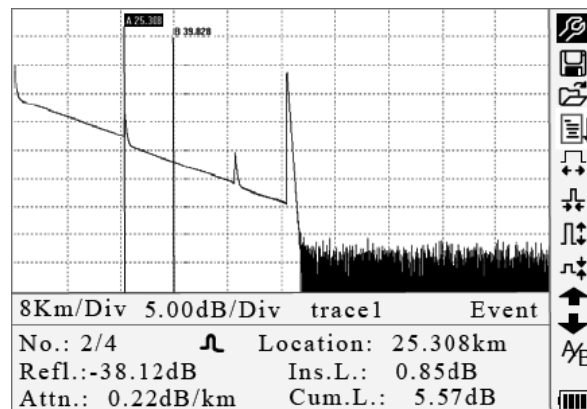
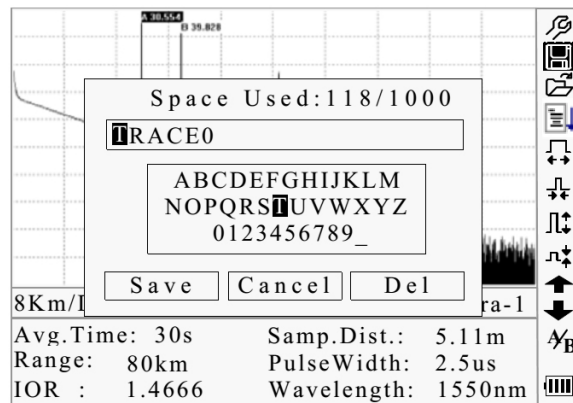
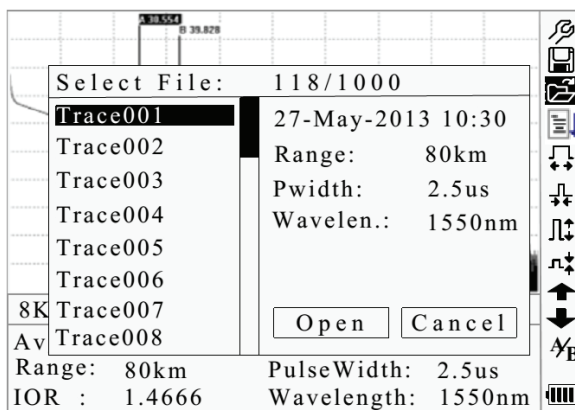

Figure 4-4. Trace Measurement
Figure 4-6. Save a Trace
Figure 4-7. Browse Saved Traces
Note: After a certain period of time, the trace displays on the GUI. The trace in the figure below is a trace during measurement, which will be refreshed for every certain period of time to demonstrate the whole process in realtime. But at the end of measurement the trace will be complete, as shown in Figure 4-4.
Under GUI (Figure 4-4) press  and the items in the information window will display in this order: measurement parameters → analysis information → events list → marker A/B information → fiber information → measurement parameters.
Under GUI (Figure 4-4) press  until the events list information appears in the information window.
Under GUI (Figure 4-4) use  and  to highlight ^A/_B, and then press Enter to switch between marker A/B.
Under GUI (Figure 4-4) press **↶** to switch information window to marker A/B information.
1. Under GUI (Figure 4-4) use **▲** and **▼** to highlight **↔**, and then press Enter to zoom out the trace horizontally.
Under GUI (Figure 4-4) use **▲** and **▼** to highlight **↔**, and then press Enter to zoom out the trace vertically.
1. Under GUI (Figure 4-4) use **▲** and **▼** to highlight **↕**, and then press Enter to zoom out the trace vertically.
Under GUI (Figure 4-4) use **▲** and **▼** to highlight **↕**, and then press Enter to zoom in the trace vertically.
1. Under GUI (Figure 4-4) use **▲** and **▼** to highlight **💾**, and then press Enter to enter (Figure 4-6).
1. Under GUI (Figure 4-4) use ▲ and ▼ to highlight , and then press Enter to confirm (Figure 4-7).